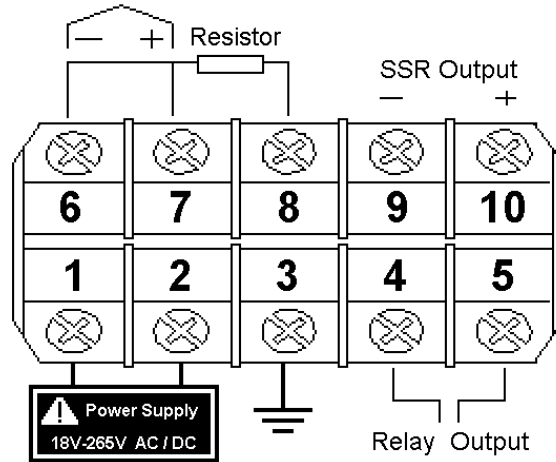

Figure 7
- Note that if a 2-wire RTD is used as the temperature input signal, terminals 6 and 7 **MUST** be electrically shorted (jumpered) as shown in Figure 7.